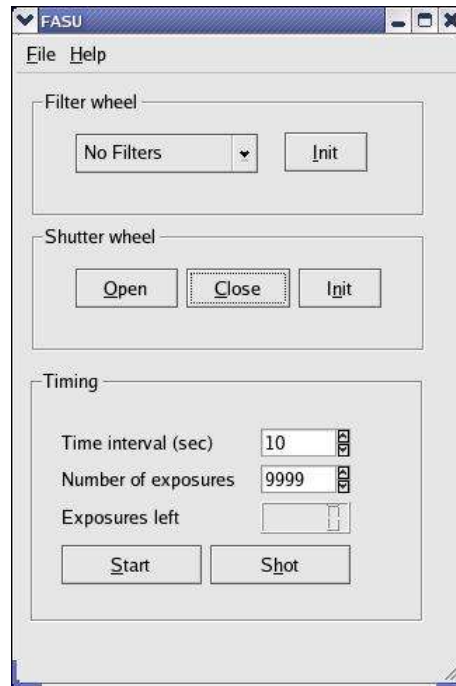

Fig.3a. Panel of the filter and shutter control program (from R.Janulis).
7. Filter wheel control is performed by qfasu (Filter And Shutter control Unit) programme. Panel is shown in Fig. 3a.